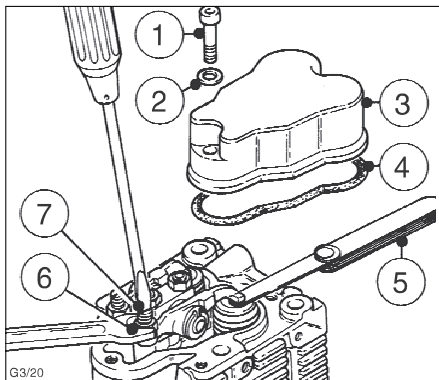

Fig. 21
- Measure valve clearance with 0.10 mm feeler gauge “5”(fig. 21, chap. 3.1.).
- If adjustment is necessary, slacken off hex nut “6”, turn adjusting screw “7”and retighten nut “6”. It should then be possible to pull feeler gauge “5”through with just perceptible resistance to movement (fig. 21).